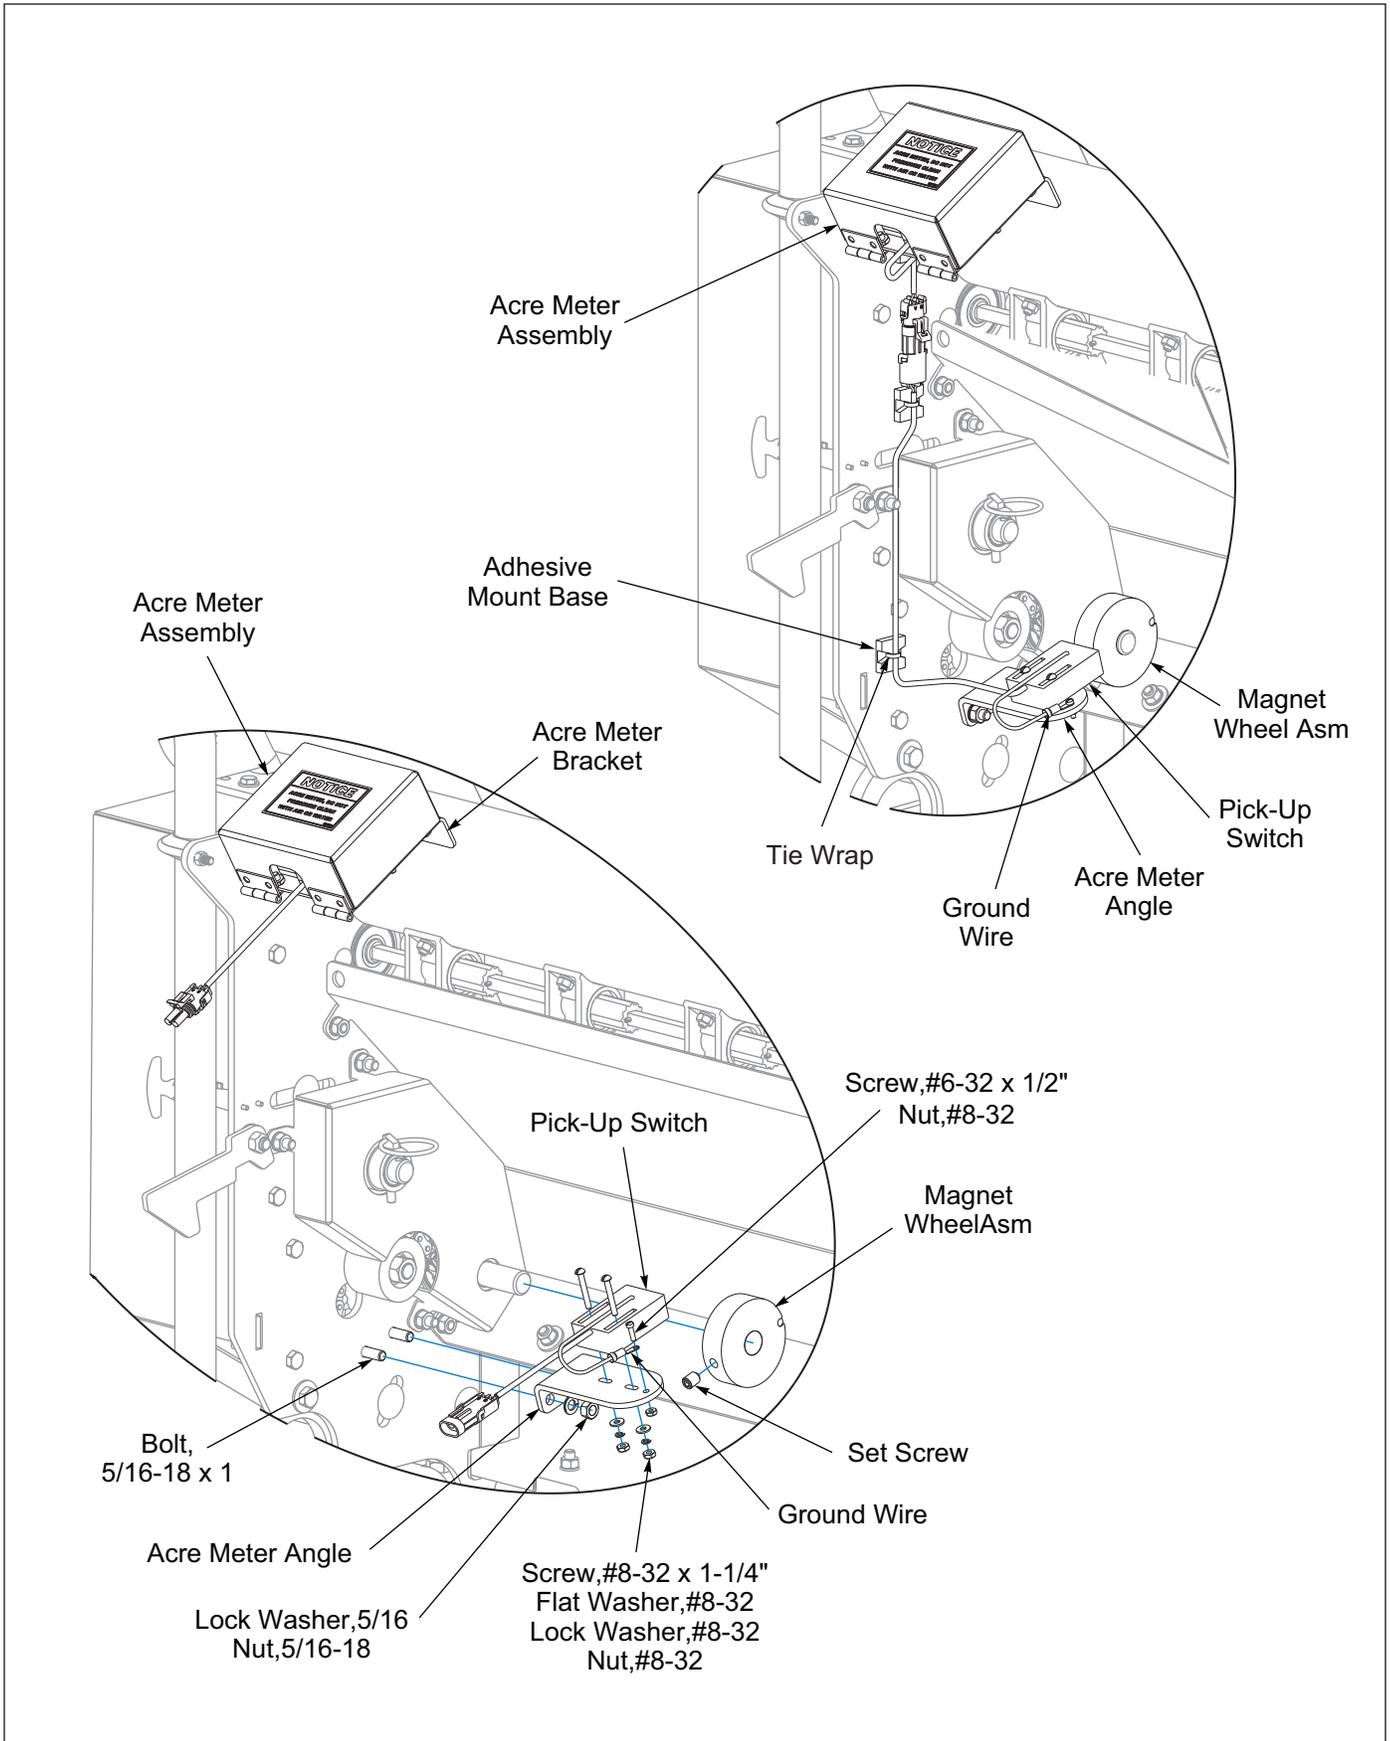

Figure 2-4: Acre Meter Installation
3. Attach the Acre Meter Angle at the rear of the Till 'N Seed to LH End Plate with 5/16-18 x 1" Bolts, Lock Washers, and Nuts. **See Figure 2-4.**